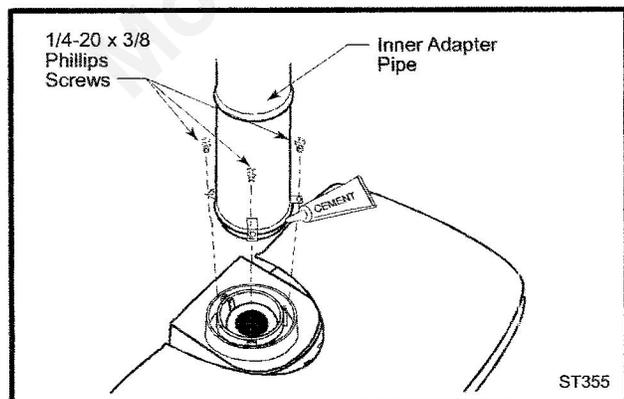

Fig. 27 Simpson Dura-Vent - install inner adapter pipe.
- Run a bead of sealant around the bottom end of the starter pipe and attach the assembly to the stove using three 1/4-20 x 3/8" Phillips screws provided in the parts bag. (Fig. 27)